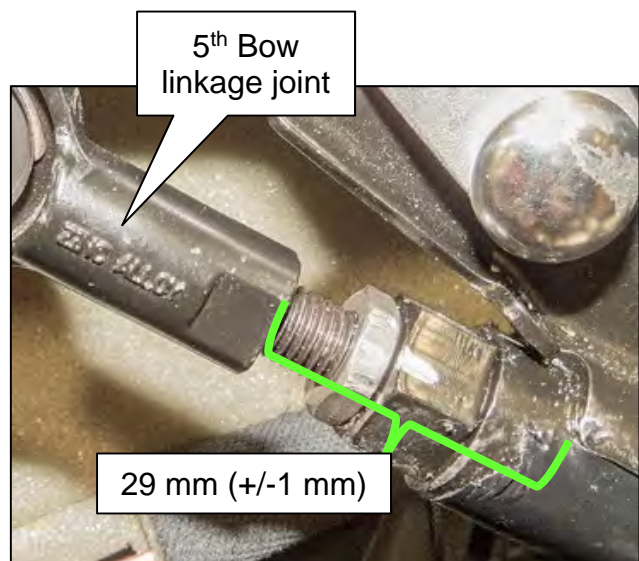

Figure 107
115. Measure the gap between the base of the 5th Bow linkage joint to the flange, as shown in Figure 107.
- The length is measured from the base of the 5th Bow linkage joint to the flange, as shown in Figure 107.